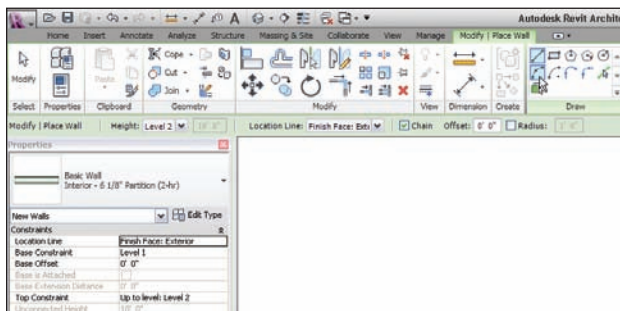

FIGURE 2.32 Choosing options should be old hat by now! The Start-End-Radius Arc button is at the top right.
8. On the Draw panel, click the Start-End-Radius Arc button (see the top right of Figure 2.32).